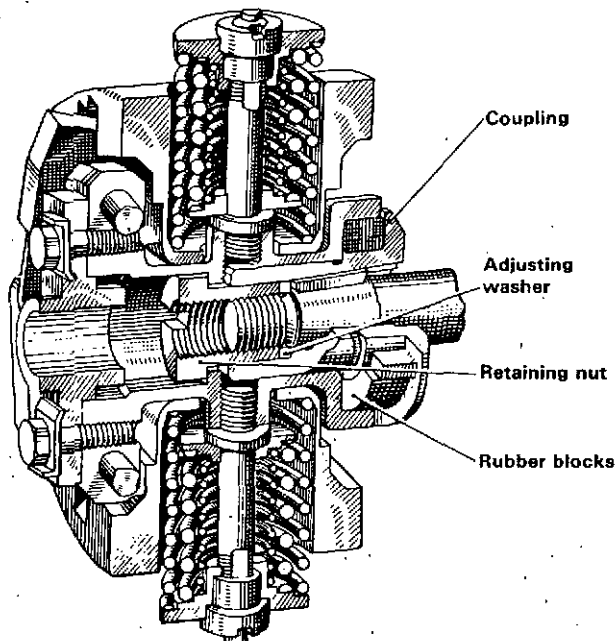

Fig. 53 Flyweight assembly - sectioned
2. Fit the guide bush, tighten its securing bolts (fig. 46, Item 'D') and bend up their locking tabs. A sectioned view of the governor assembled to this stage is shown in fig. 53.